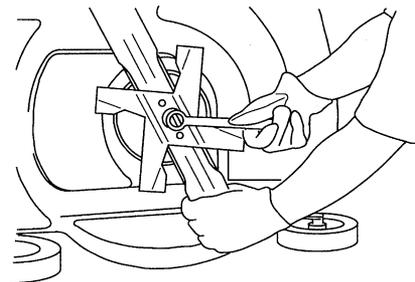

Figure 28
3. Install mulch fan into blade recess and secure with blade nut (Fig. 28).